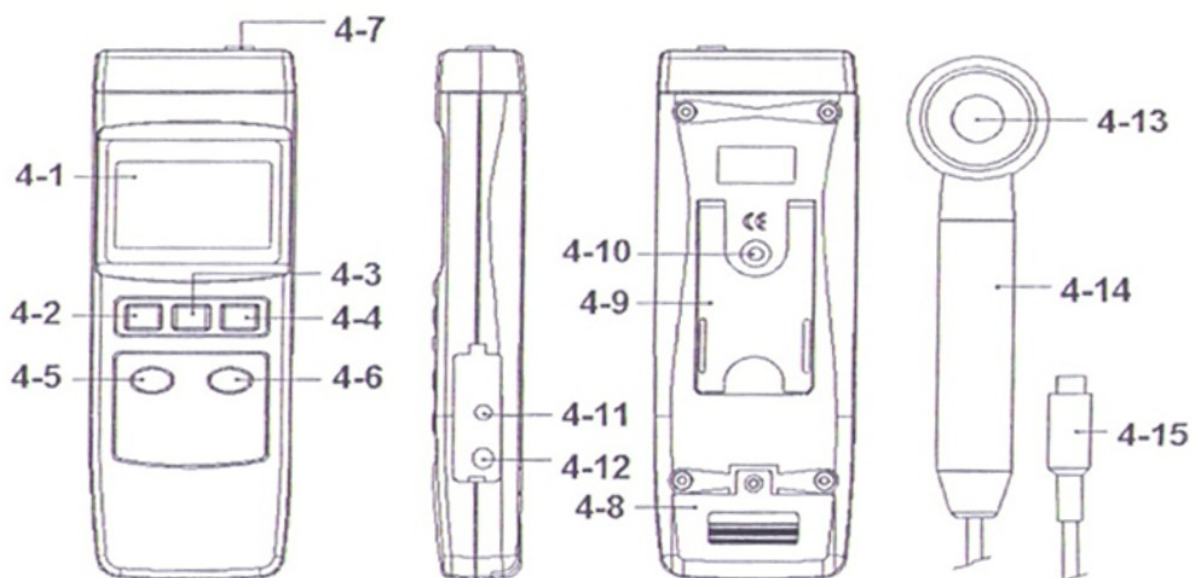

Fig. 1
- 1) Connect the " Probe Plug " (4-15, Fig. 1) to the " Input Socket " (4-7, Fig. 1)
- 2) Power on by pushing the " Power Button " (4-2, Fig. 1).
** After power ON if push the " Power Button (4-2, Fig. 1) once a while again will power OFF the meter.*
- a. Select the " 2 mW/cm² " range by pushing the " 2 mW/cm² Button " (4-5, Fig. 1).
- b. Select the " 20 mW/cm² " range by pushing the " 20 mW/cm² Button " (4-6, Fig. 1).
- 4) Use the hand to hold the " UV Probe Handle " (4-14, Fig. 1) and face the " UV Sensor " (4-13, Fig. 1) to the measuring UV light opposite. then the Display (4-1, Fig. 1) will show light values exactly.
During the measurement, pressing the " Hold Button " (4-3, Fig. 1) will freeze the display value, at the same time the LCD will show the " HOLD " indicator.
- * The data record function records the maximum and minimum readings. Press the " REC Button " (4-4, Fig. 1) once to start the Data Record function and there will be a " REC. " symbol on the display.
- a) Press the " REC Button " (4-4, Fig. 1) once, the " REC. MAX. " symbol along with the maximum value will appear on the display.
If intend to delete the maximum value, just press the " Hold Button " (4-3, Fig. 1) once, then the display will show the " REC. " symbol only & execute the memory function continuously.
- b) Press the " REC Button " (4-4, Fig. 1) again, the " REC. MIN. " symbol along with the minimum value will appear on the display.
If intend to delete the minimum value, just press the " Hold Button " (4-3, Fig. 1) once, then the display will show the " REC. " symbol only & execute the memory function continuously.
Cover (blank) the " UV Sensor " (4-13, Fig, 1), pushing " Zero Button / 2 mW/cm² Button " (4-5, Fig. 1) continuously at least 3 seconds, LCD will reach to zero values.
Zero Button (4-12, Fig. 1) can be operated under the display value ≤ 0.1 mW/cm² only.
The instrument has RS232 PC serial interface via a 3.5 mm terminal (4-11, Fig. 1).
- 2) Open the " Battery Cover " (4-8, Fig. 1) away from the instrument and remove the battery.